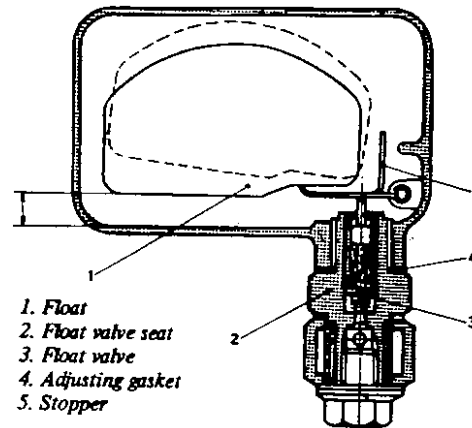

Fig. B.7 Adjusting the fuel level - D3034C carburettor
The fuel level should correspond with the level gauge line. Adjustment can be carried out, if necessary, by changing the gaskets between the float chamber body and needle valve seat. The gaskets are shown as item 4 in Fig.B.7. When correctly adjusted, there should be a clearance of approximately 7 mm (0.027 in.) between float and chamber, as indicated.